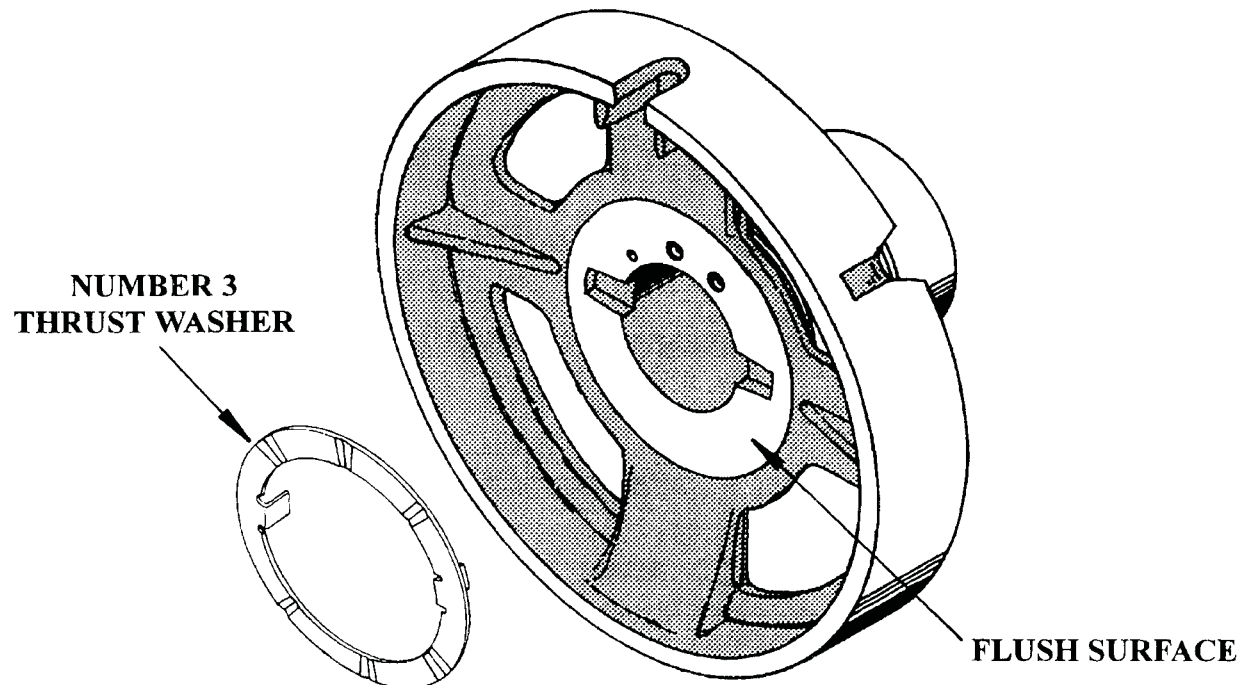
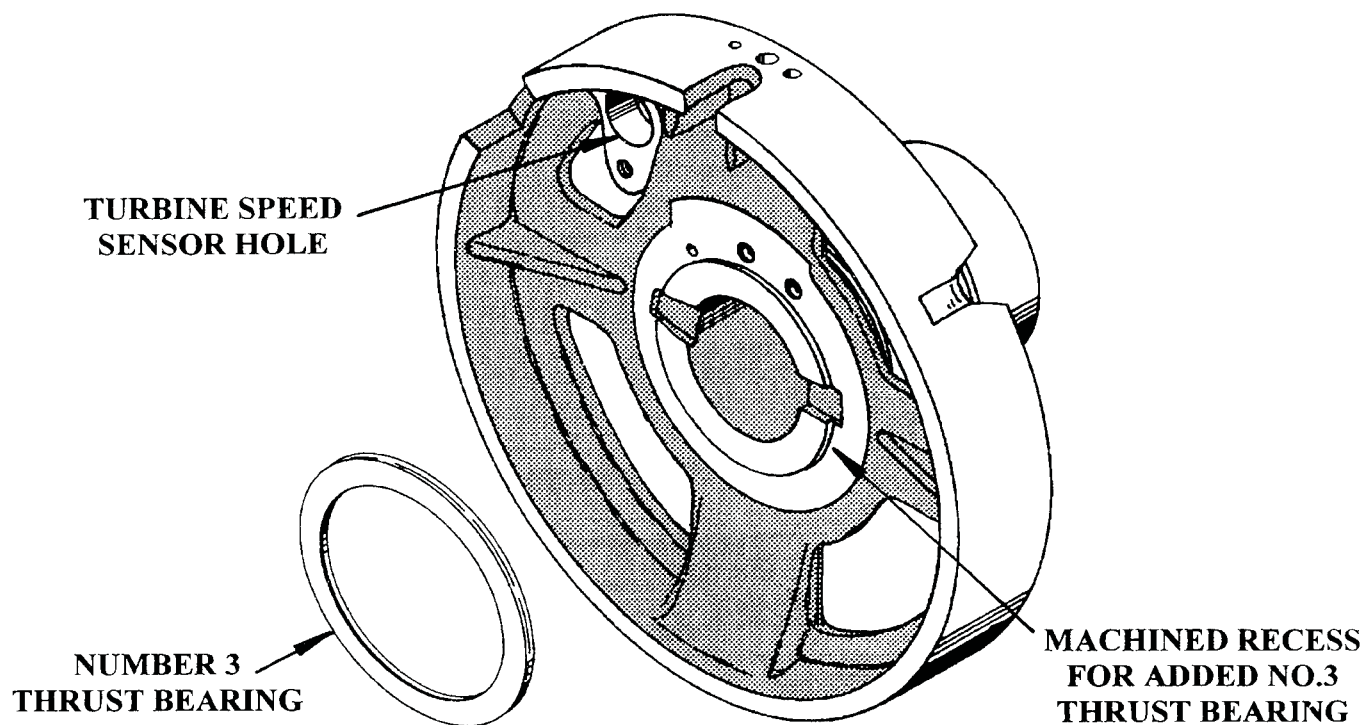

Figure 35
Figure 36
- (4) **CENTER SUPPORT** - When the "Snap Shell" was introduced in 1993, the number 3 thrust washer was eliminated (See Figure 35), & number 3 thrust bearing was added (See Figure 36). The addition of the number 3 thrust bearing required machining the surface deeper to accommodate the bearings added thickness (See Figure 36).
1. Machined recess for added number 3 thrust bearing (See Figure 36).
3. Machined hole for turbine speed sensor getting ready for 4R55E (See Figures 36 and 38).
- (5) The new design level center support **CANNOT** be used in **ANY** previous models, unless updated with **ALL** of the parts listed above (See Figures 36 and 38).
- (6) The previous design center support **CANNOT** be used forward into **ANY** model that is using the "Snap Shell" (See Figure 35).